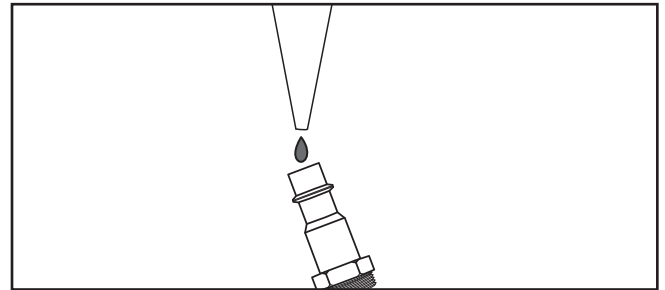

**Figure 4.** Sander controls.
2. Hold the sander and press the throttle lever (**Figure 4**) to operate.
3. Turn the regulator knob (**Figure 4**) to adjust the sanding speed.